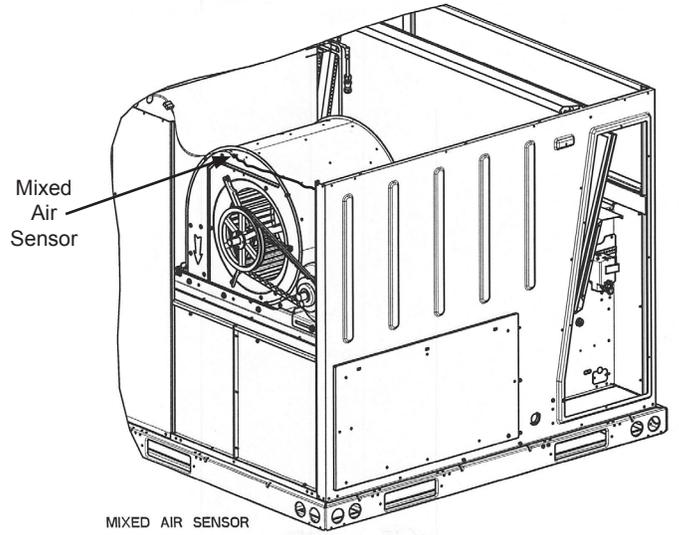

Figure 6A - Mixed Air Sensor Location
3. Mount the mixed air sensor to the indoor fan through the existing screw on the blower. See Fig. 6A.